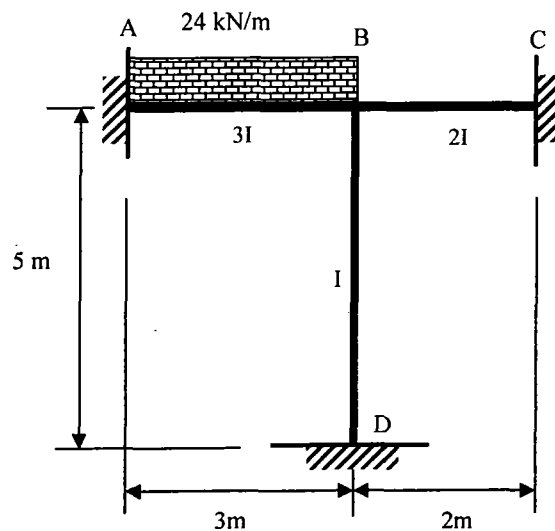

Figure 5 / Rajah 5
4. (a) Figure 5 shows a frame carrying a uniformly distributed load of  $24\text{ kN/m}$  on span AB. Support A, C and D are fixed. Each member is assigned value of  $I$  as shown in Figure 5. Determine the internal moments at the joints of the frame using the **slope deflection method**. Hence sketch the deflected shape and bending moment diagram of the frame.